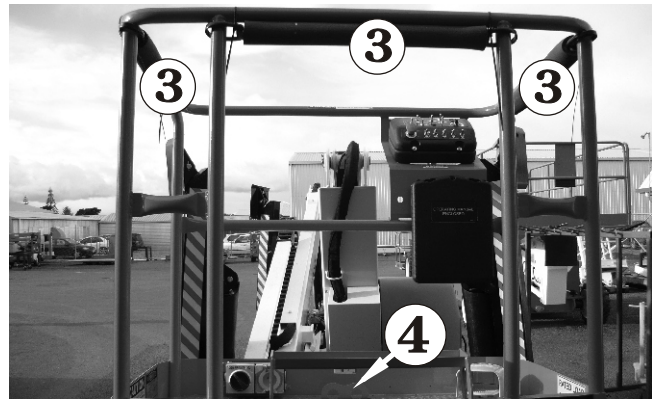

Figure 8.9
- Enter the platform, close the gravity gate ③, and attach the lanyard of your safety harness to one (1) of the anchor points ④ (see Figure 8.9).